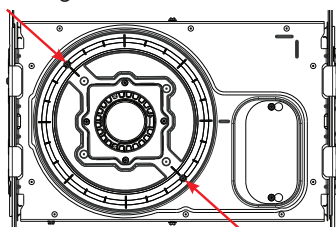

fig. 4
3. *Optional:* If using a square aperture with a flange, realign the collar to the desired orientation (see fig. 4).
4. *Optional:* If using a square aperture with a flange, realign the collar to the desired orientation. Refer to fig. 4 on page 8.